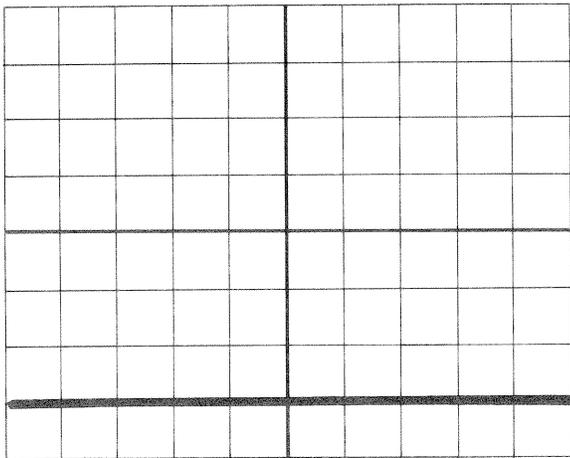
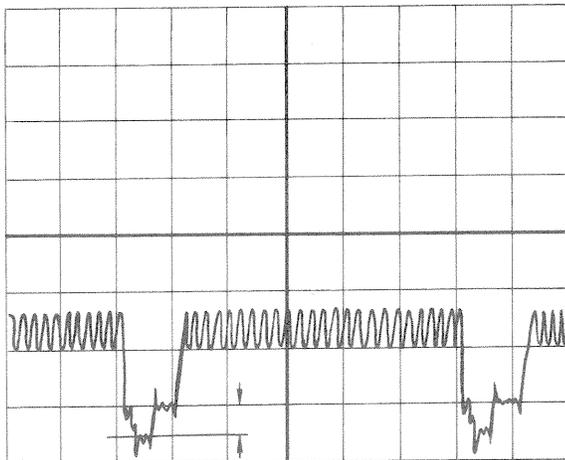
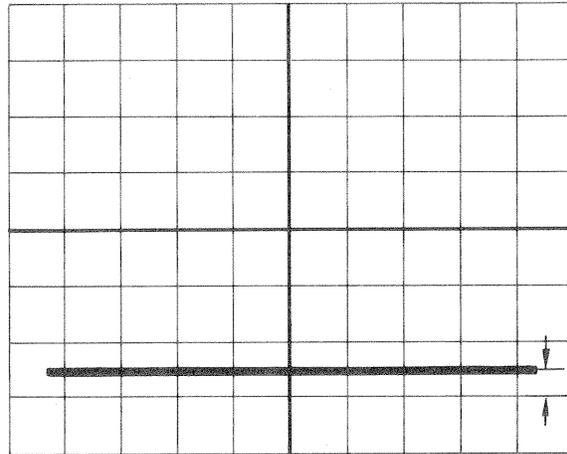

Fig. 5-2
Fig. 5-3 Sync tip level shift
Fig. 5-4 Clamp level
- e. Check to see that the sync tip of the composite signal sinks below the second division (See Fig. 5-2) by approx. 0.5V. Measure the exact voltage by which the sync tip sinks below the clamp reference level set in Step 7-c (Fig. 5-2). See Fig. 5-3.
- g. Adjust scope STABILITY to observe a horizontal trace on the same position as seen on Fig. 5-2.
- h. Adjust R129 so that the horizontal trace on the scope moves up by the voltage measured in Step 7-e (Fig. 5-3). See Fig. 5-4.